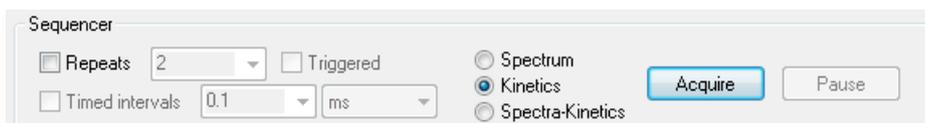

Figure 2.23: the Sequencer panel for fluorescence polarisation
5) Ensure that **Kinetics** mode is selected in the **Sequencer** panel (Figure 2.23).